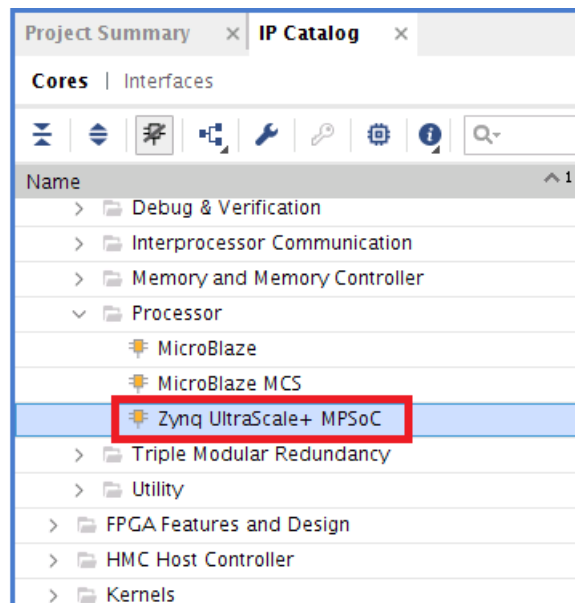

Figure 3-23: IP Catalog
1. Use the Zynq UltraScale+ MPSoC Vivado IP from IP catalog as shown in Figure 3-23.